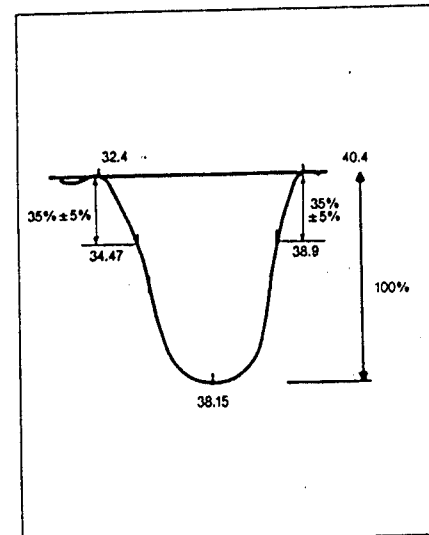

Fig. 15 Illustration for balance between 38.9 MHz and color signal
- 7) Adjust the Core (FL410) in the Tuner Section shown in Fig. 15